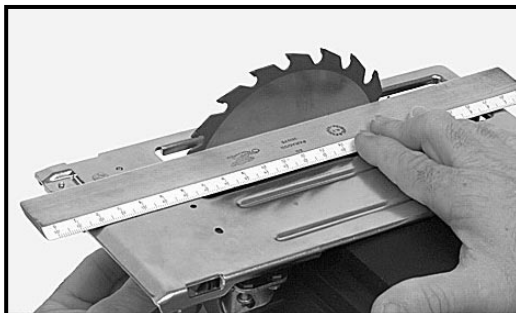

Fig. 9A
4. Place a straight edge along side of blade touching set of blade teeth at both front and rear of blade as shown in Fig. 9A.